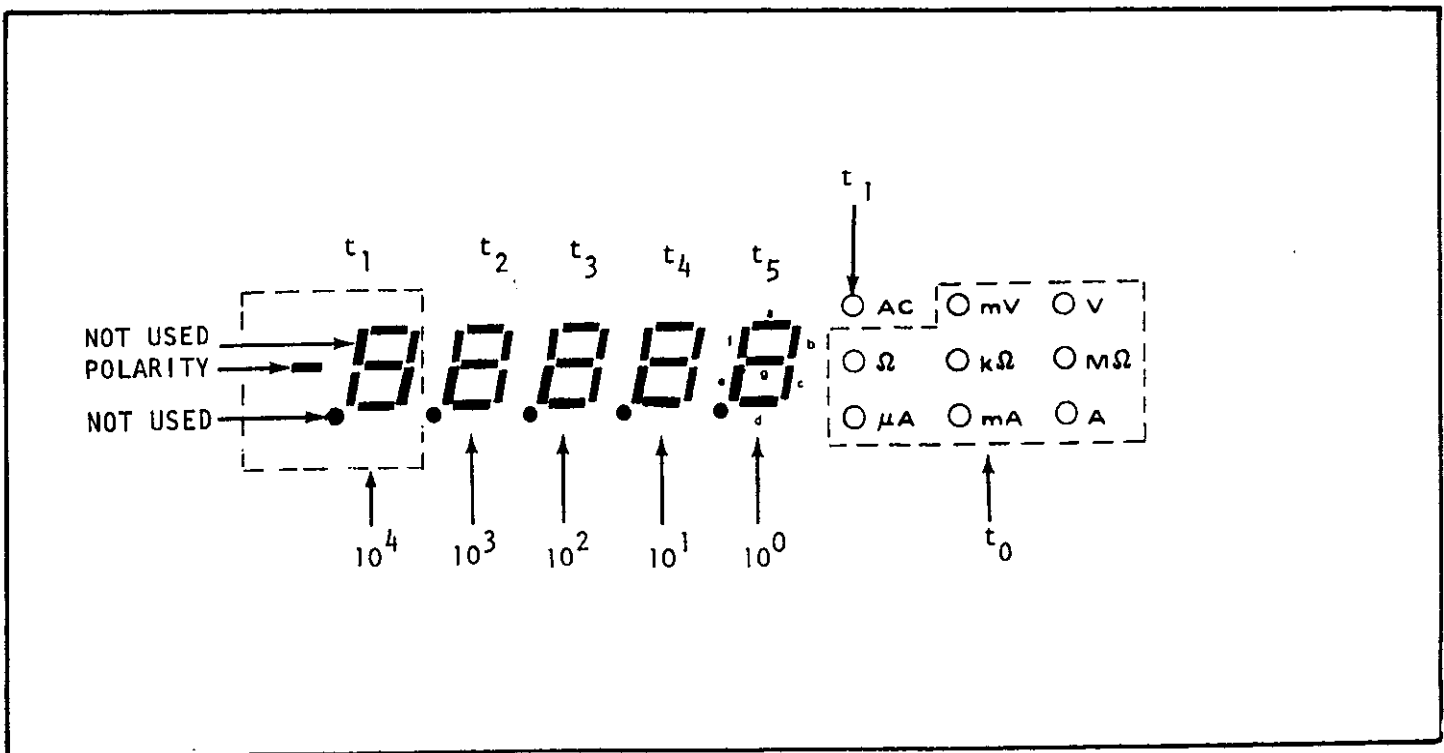

FIGURE 5-17. Digital Display Multiplex Scheme.
a. This schematic shows the display digits, the LED function indicators, all display drivers and multiplex timing generator. The entire display, including minus sign and function indicators, is fully multiplexed. This is accomplished with six time slots (timing mux). The mux times are generated by shift register U301 whose inputs come from the LSI circuit (U901, Schematic 29145E). These time slots are referred to as t_0 , t_1 , t_2 , t_3 , t_4 , t_5 . The common anodes of each digit and the common anodes of the function indicators are driven from the appropriate mux line, see Figure 5-17. These mux times occur in the operating digital interfaces (see Section 5-8, 1722). The mux times occur in the sequence t_0 thru t_5 , t_0 and t_1 are 383 microseconds each, and t_2 thru t_5 are 191 microseconds each. One complete mux cycle is 1.53 milliseconds.